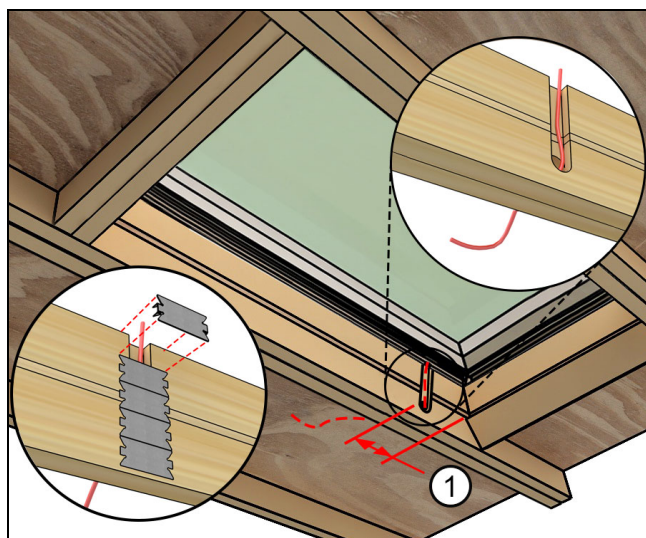

Figure 32
4. If installing an Awaken product, create a notch in rough opening for the power wire as needed. The center of the notch is nominally 1-3/8" to the sill RO edge. See Figure 32. Create notch large enough to run Romex cable per applicable electrical specification. Notch can be covered with plates as needed. If the drywall is not installed tight into the lining groove, add on-site insulation and trim for finished appearance and to prevent conditions that may contribute to condensation. Note: Electrician needs to meet or exceed local codes. Unshielded wire should be covered by plate, anything under 1-1/2" no plate is required. Electrical route may need to be notched.